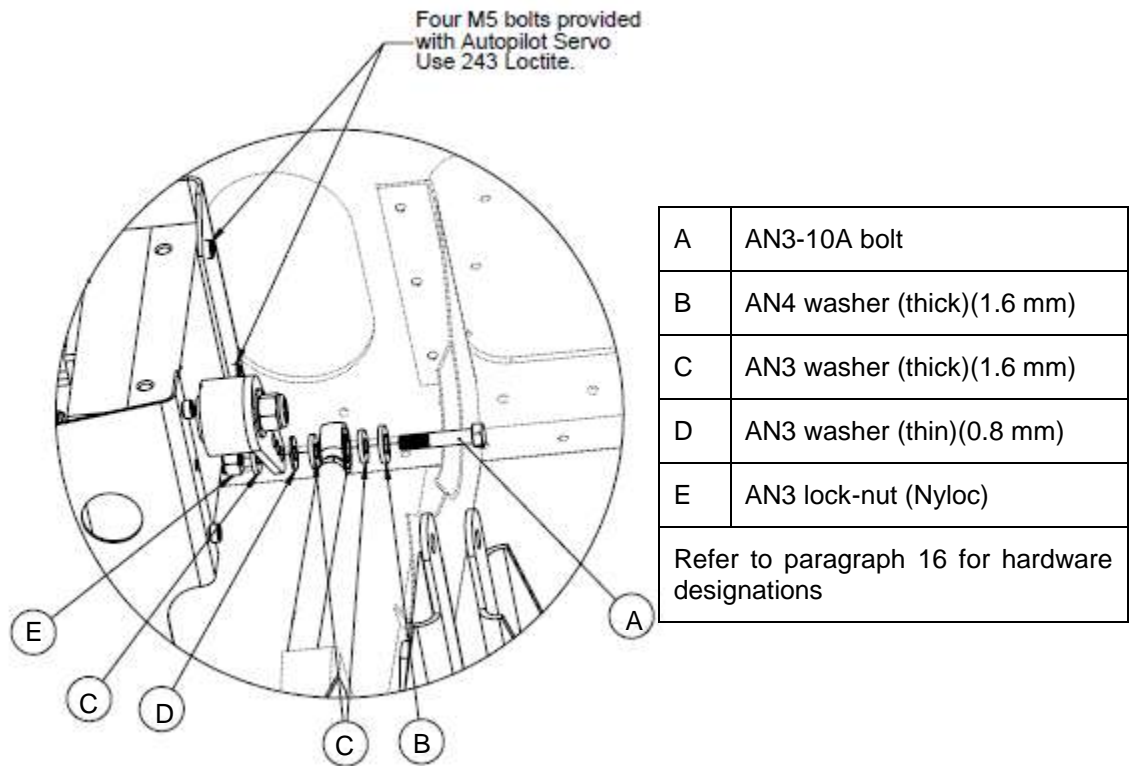

Figure 28: Autopilot elevator servo installation.
- Observe the correct placement of washers (refer to Figure 28).